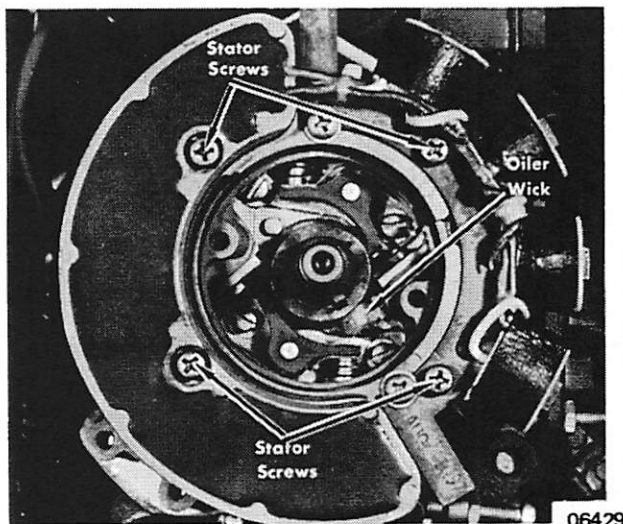

Figure 2. Removing Points
*NOTE: To replace points, it is necessary to remove 4 screws and remove stator assembly. (Figure 2)*
- d. Remove 2 screws and 1/4" nut from each set of points and remove contact points. (Figure 2)